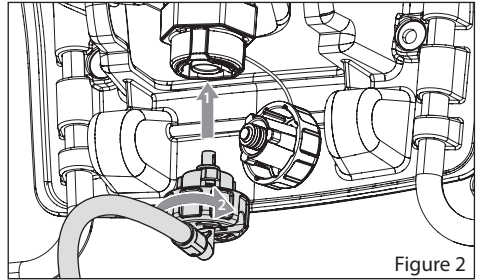

Figure 2
1. Align hose barb tabs with the cap, push hose barb into cap until it stops. See Figure 2.